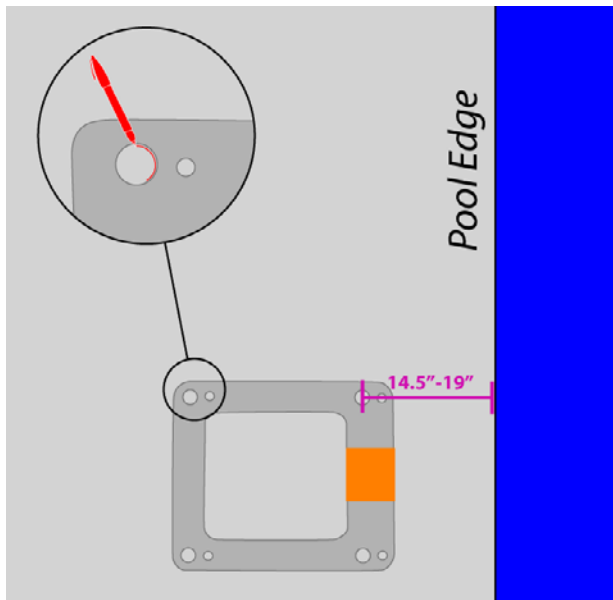

FIGURE 2
1. Mark the 4 hole locations on your deck using the larger holes of the anchor jig plate as a template. Make sure the center of the holes on the anchor jig plate are 14.5 to 19 inches from the pool's edge. SEE FIGURE 2